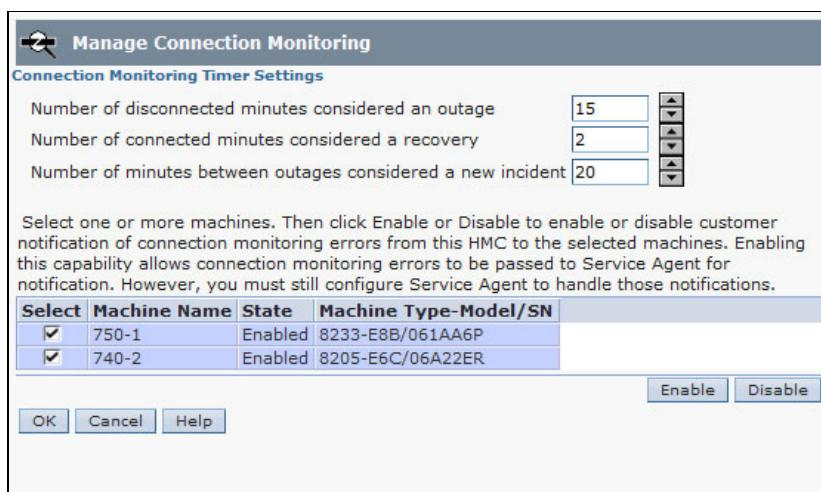

Figure 6-15 Manage Connection Monitoring
3. From the Manage Connection Monitoring window (Figure 6-15), adjust the timer settings, if necessary, and enable or disable the server.